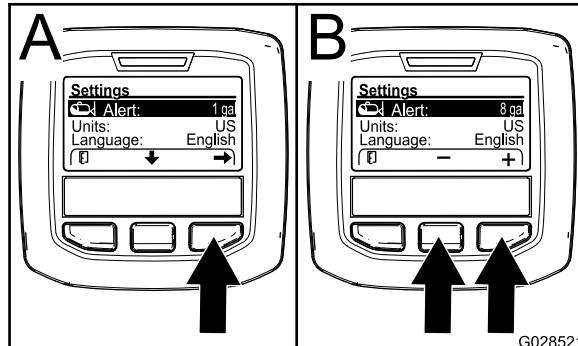

Figure 60
- Press the center selection button to highlight the Alert setting (Figure 60).
- Press the right selection button (Figure 60).
- Use the center or right selection buttons to enter the minimum quantity in the tank when the alert will display during sprayer operation (Figure 60).